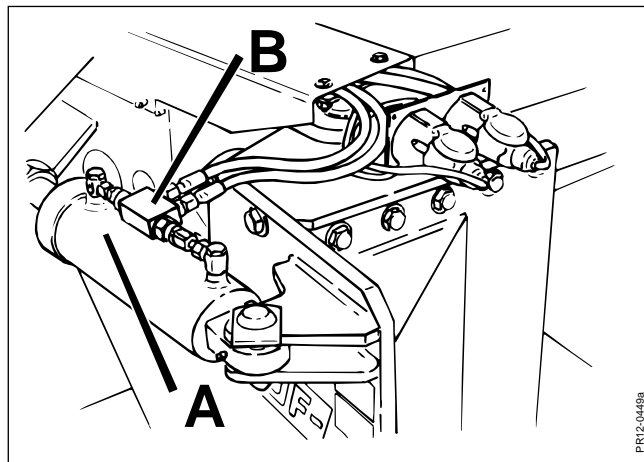

Fig. 3-7
- Fig. 3-7** The drawbar may be converted electro-hydraulically using the joystick on the control box.